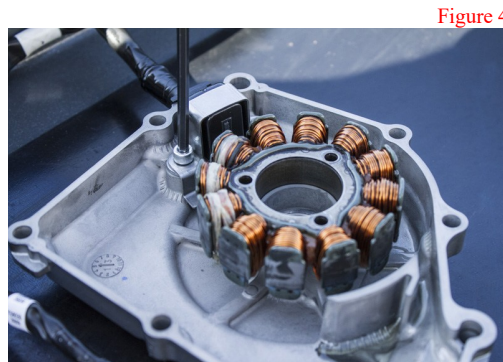

Figure 4
- Remove stator and pick up from stock cover. (See Figures 4 & 5)